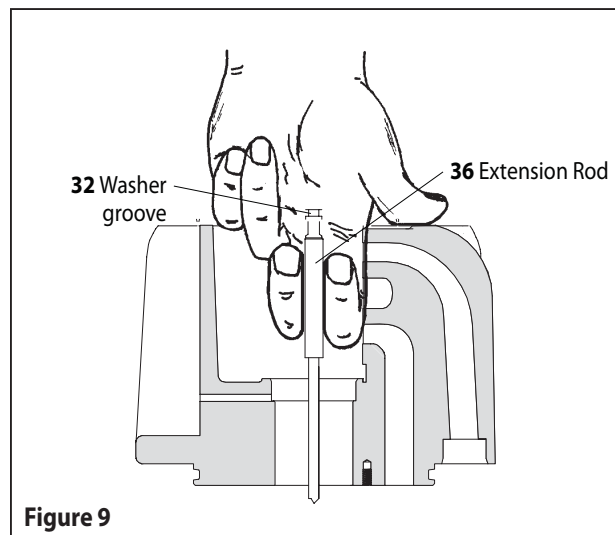

Figure 9
22. Carefully push (31) valve piston into (33) gland to size (34) seal (see figure 9 below). After sizing, remove (31) valve piston from (33) gland.
23. Slide (40) washer over (36) extension rod.
24. Pull (36) extension rod up and grasp with two fingers (see figure 9 below).